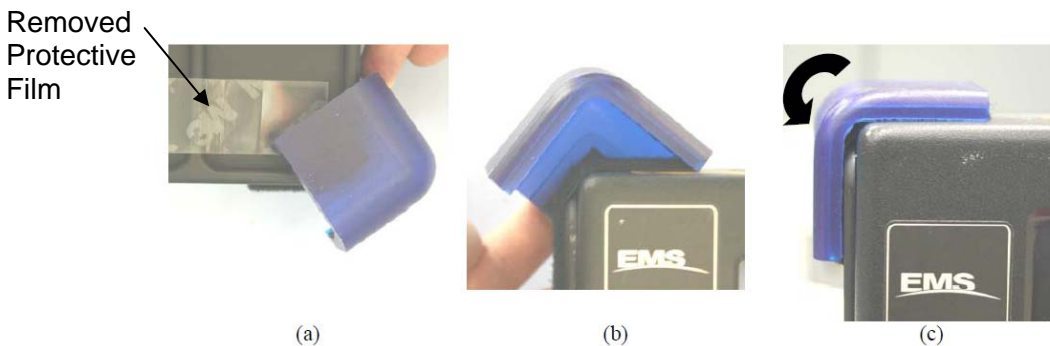

Figure 5.- Corner Bumper Installation.
2.7 Place removed protective film from previous step over newly installed 1" Square Velcro "Loop" side to prevent mating. Refer to Figure 5(a).
2.8 Position top of Corner Bumper such that 3" Velcro just begins to attach (~45°). Refer to Figure 5(b).
Refer to Figure 5(c).